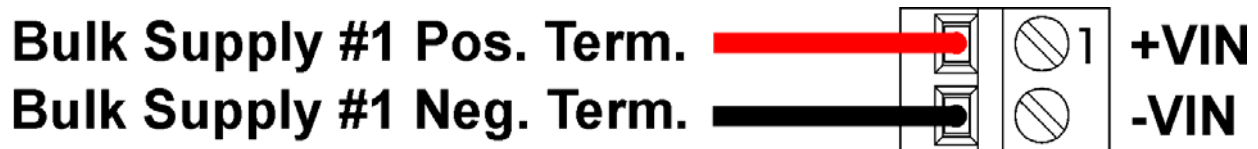

Figure 4-4 - Battery Charger & I/O Board (TB2) (Primary Power Connector)
4.4.2 Battery Charger & I/O Board Connectors (see Figure 4-4, Tables 4-4 & 4-5)